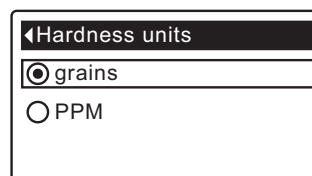

FIG. 56
1. From any of the rolling status screens, press the SELECT (O) button to display the **Main menu**.
3. Press the SELECT (O) button to display the User preferences menu.
5. Press the SELECT (O) button to display the Hardness units menu (See Figure 56).
6. If the desired hardness unit already has a black dot next to it (See Figure 56), go to Step 7. Otherwise, press the DOWN (▼) or UP (▲) buttons to scroll to the other hardness unit, then press SELECT (O) to choose it.
7. Press the SELECT (O) button. The display will go back to the User preferences menu.